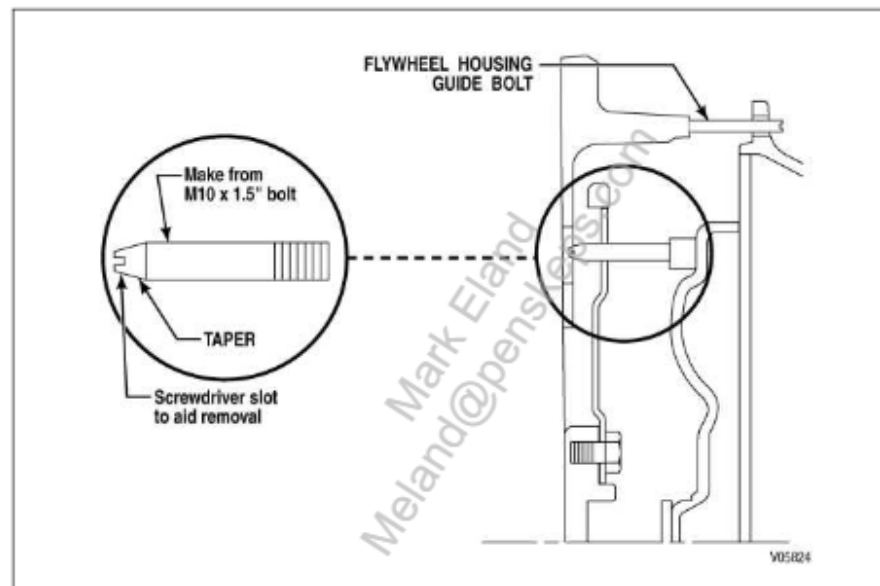

Figure 6-1. Pilot Tool for Transmission-To-Engine Alignment
6. Install an M10 x 1.5 headless guide bolt into one of the flexplate bolt holes in the flexplate adapter or torque converter mounting lug (refer to Figure 6-1). Align the guide bolt with the flexplate hole at the access opening.